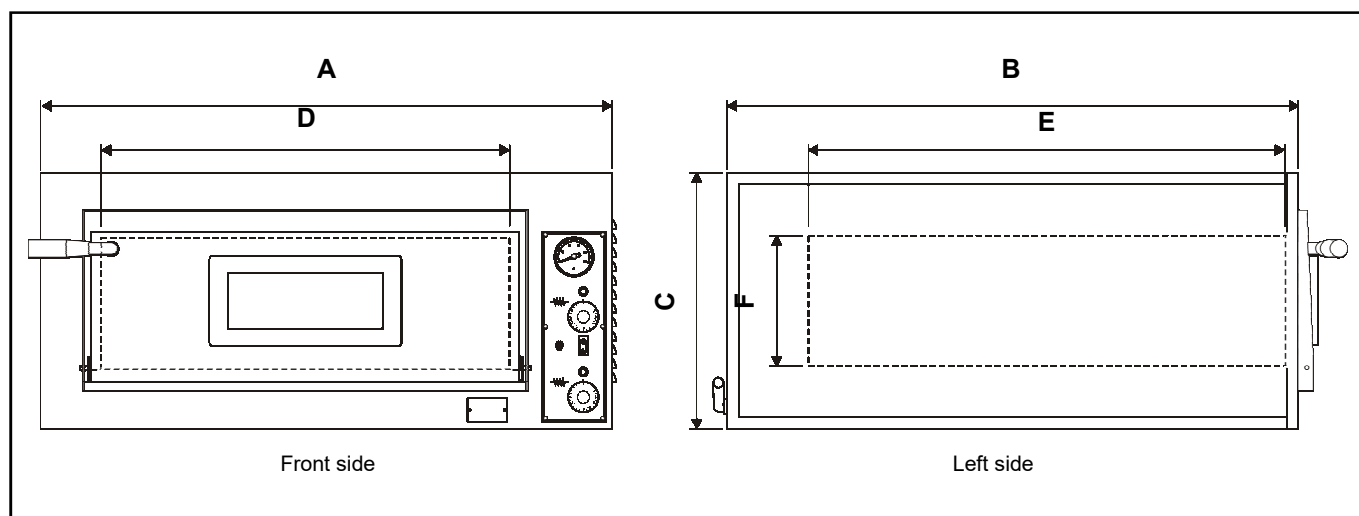

FIG.3 (Dimensions of the oven and of the baking chamber)
FIG. 3 and TAB. 1, in the related views, give the overall dimensions of the oven and of the baking chamber.
- 5) Open the oven door (**FIG. 3-Ref. 3**) manually using the suitable handles (**FIG. 3-Ref. 1**);
- 8) Close the door again and check the backing through the inspection glass (**FIG. 3-Ref. 4**);